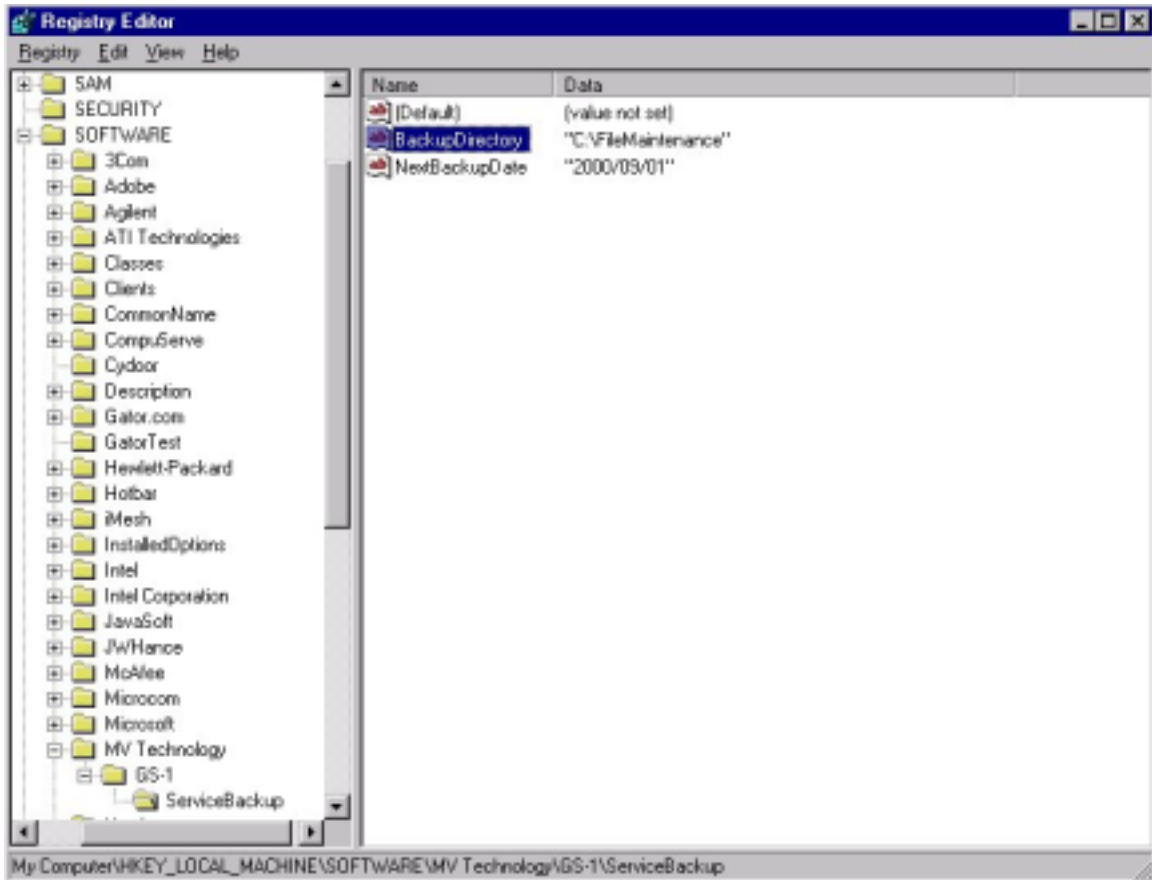

Figure 1-3 BackupDirectory Icon
4. Double-click the **BackupDirectory** icon as shown in Figure 1-3: